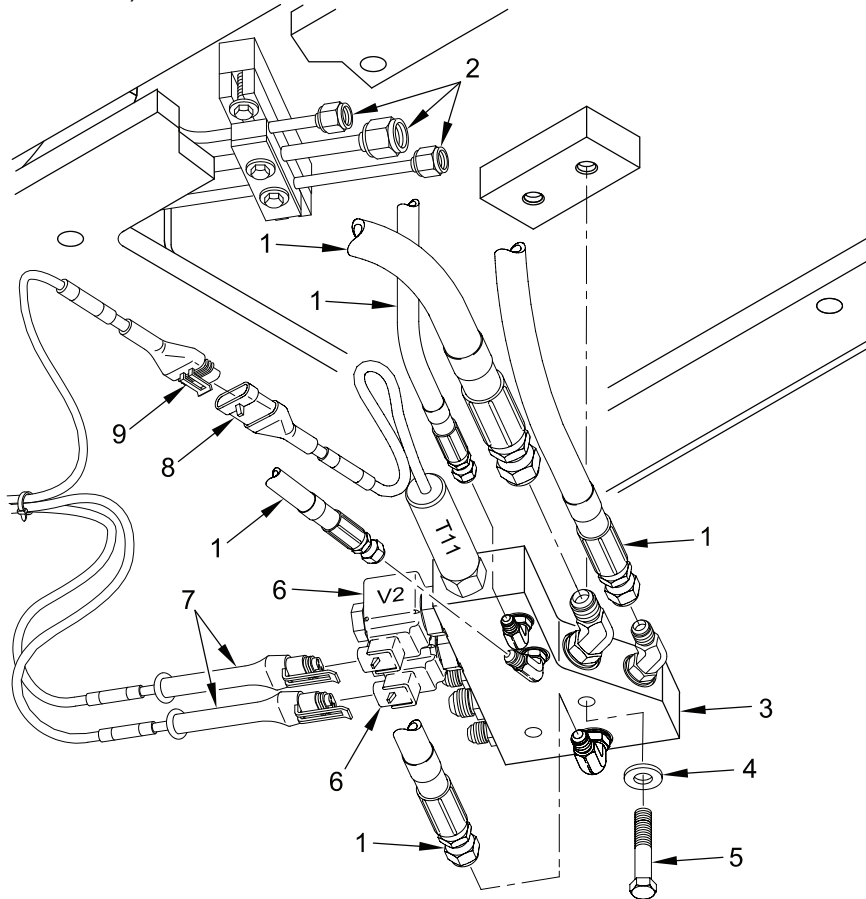

Figure 4. Installing HDC Forward Right Manifold
1. Install right forward manifold (Figure 4, item 3) using two flat washers (Figure 4, item 4) and two new self-locking screws (Figure 4, item 5).
2. Connect wiring harness W3 connector P11 (Figure 4, item 9) to transducer T11 (Figure 4, item 8), on right forward manifold (Figure 4, item 3).
3. Connect wiring harness W3 connectors P2 and P10 (Figure 4, item 7) to two two-way (NO) valves V2 and V10 (Figure 4, item 6), on right forward manifold (Figure 4, item 3).
5. Connect five hydraulic hoses (Figure 4, item 1) and three hydraulic tubes (Figure 4, item 2) to right forward manifold (Figure 4, item 3).